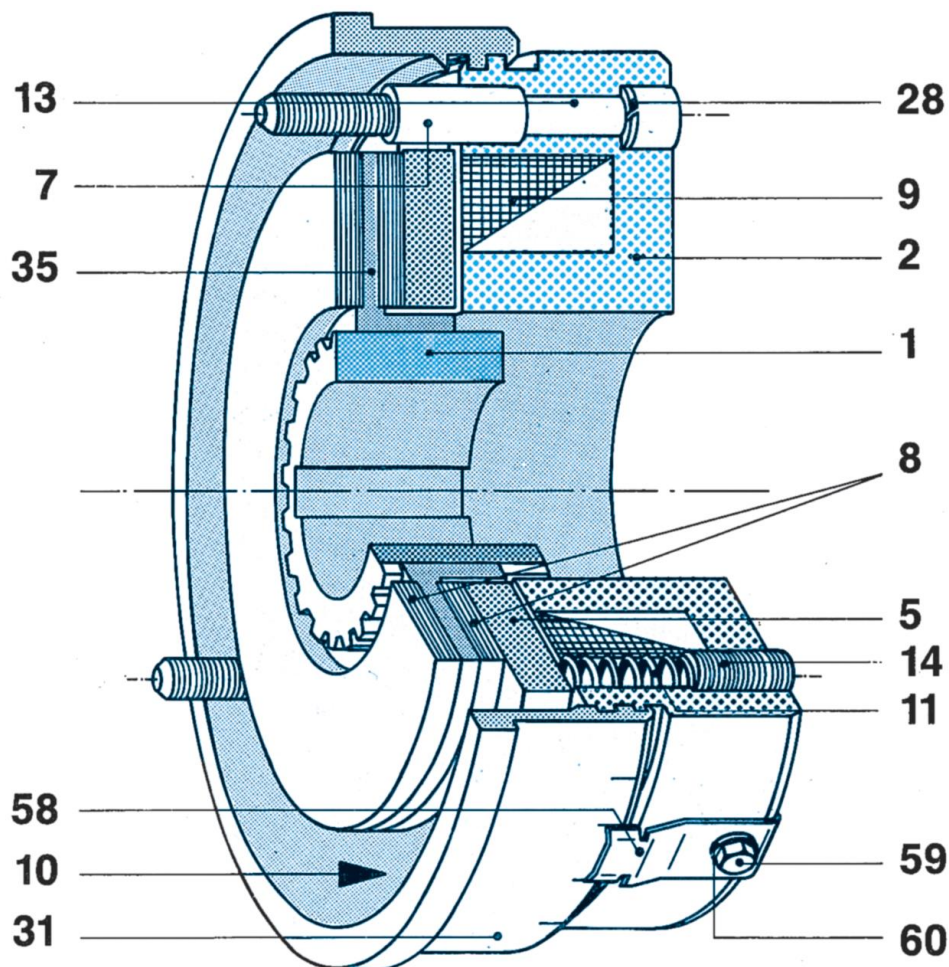
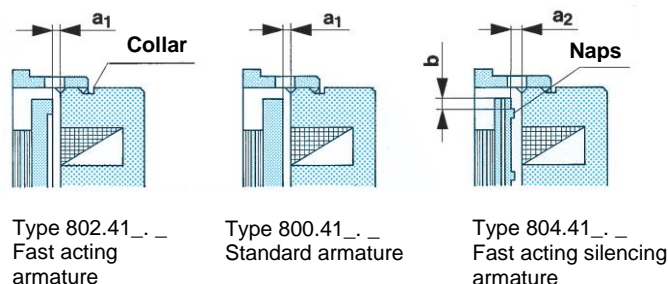

Fig. 1
Fig. 2
Check the air gap (a_1 , a_2), Fig. 2 nominal air gap (a_1 , a_2) according to Table 2 must be available. The shoulder screws (10) Figs. 1 and 4 prevent the individual parts from coming apart.
The working air gap between armature disc (5) and coil carrier (2) is adjusted to the nominal dimension (a_1 , a_2) in the factory, Fig. 2 and Table 2
2. Loosen the fixing screws (13).
3. Release the locking screw (59) and lock washer (58).
4. Turn the threaded distance ring (31) counter-clockwise (when looking at brake back side). Turning the distance ring (31) by one graduation of the stamped scale corresponds to an air gap adjustment for the sizes 3 to 6 of 0,05 mm, for the sizes 7 to 11 of 0,1 mm.
5. Tighten the fixing screws (13), observe the tightening torques according to Table 1.
6. Tighten the clamping screw (59).
This adjustment can be repeated so often, until the graduated distance ring (31) contacts the rod-stop of the coil carrier (2), Fig. 2. This contact avoids an unacceptable wear of the rotor (35). If a re-adjustment is not possible any more, the rotor (35) must be exchanged. You can find data on the rotor thickness in a new condition and thickness after a max. wear in Table 2.